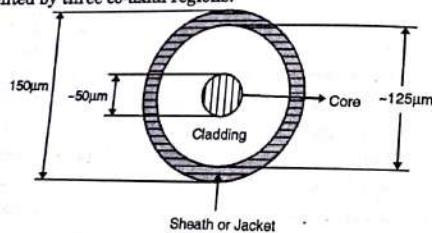

Fig. 5.4.1 : Cross sectional view of optical fibre
- In Fig. 5.4.1 we have cross-sectional view of optical fibre. In fact it is represented by three co-axial regions.